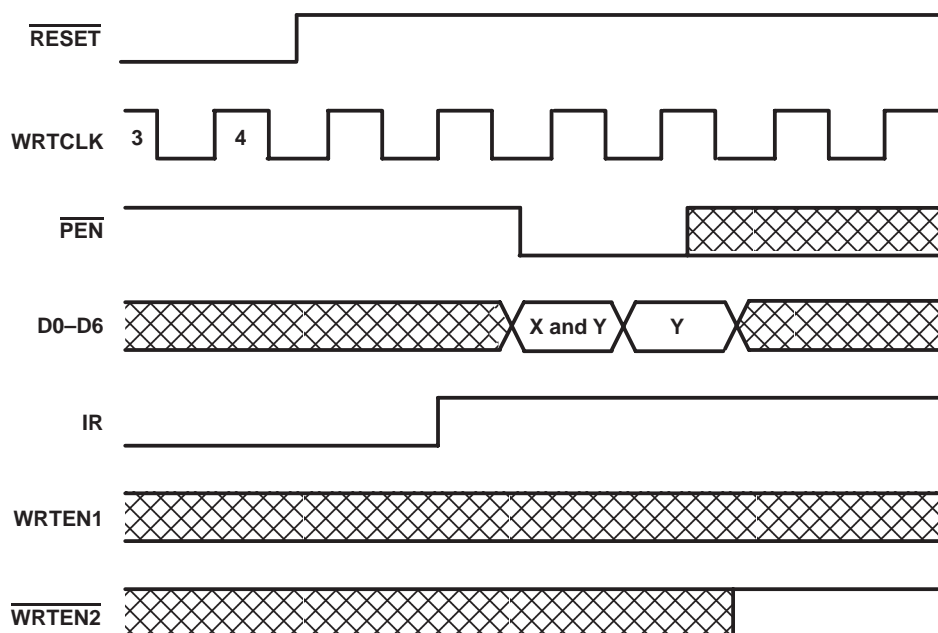

Figure 4. Programming X and Y Separately
Program enable ( $\overline{PEN}$ ) should be held high throughout the reset cycle.  $\overline{PEN}$  can be brought low only when IR is high and WRTCLK is low. On the following low-to-high transition of WRTCLK, the binary value on D0–D6 is stored as the almost-empty offset value (X) and the almost-full offset value (Y). Holding  $\overline{PEN}$  low for another low-to-high transition of WRTCLK reprograms Y to the binary value on D0–D6 at the time of the second WRTCLK low-to-high transition. When the offsets are being programmed, writes to the FIFO memory are disabled regardless of the state of the write enables (WRTEN1, WRTEN2). A maximum value of 127 can be programmed for either X or Y (see Figure 4). To use the default values of  $X = Y = 32$ ,  $\overline{PEN}$  must be held high.